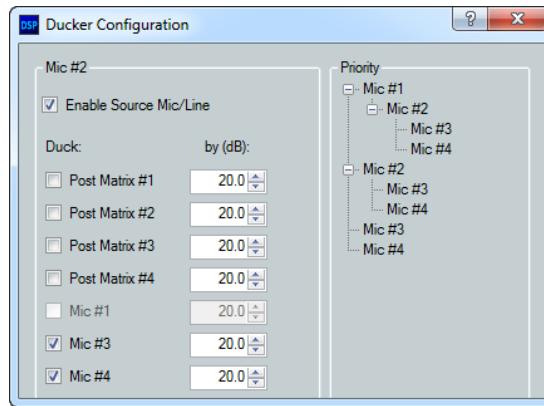

Figure 73. Set a Second Ducking Source
1. Insert a ducking processor on the additional ducking source. In this example, mic 2 is the second ducking source (see figure 73).